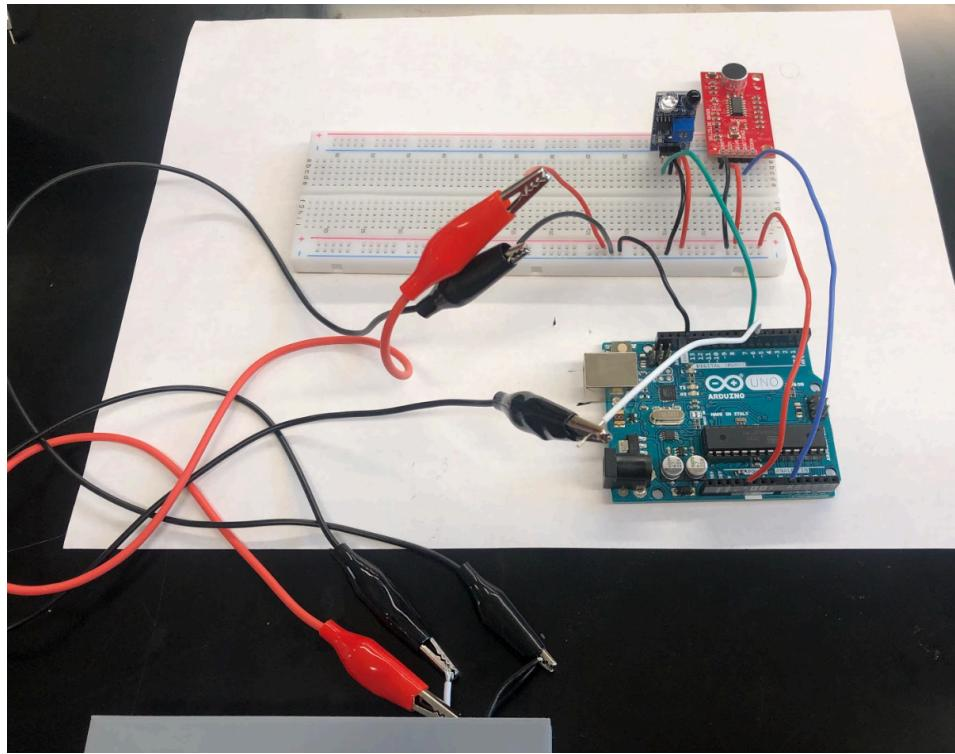

**Figure 5 Connect the sound sensor to the breadboard**
4. *Connect the sound sensor's Envelope terminal to the Arduino and power the sensor as shown in **Figure 5** below.*